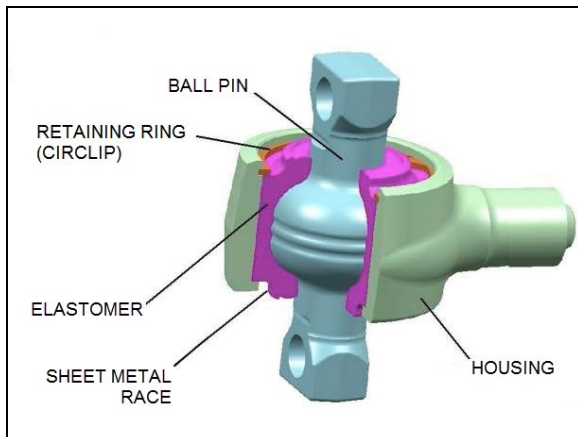

FIGURE 5: MOLECULAR BEARING CONSTRUCTION 16186
- Radial cracking of the external sheet-metal race. (Figure 5)